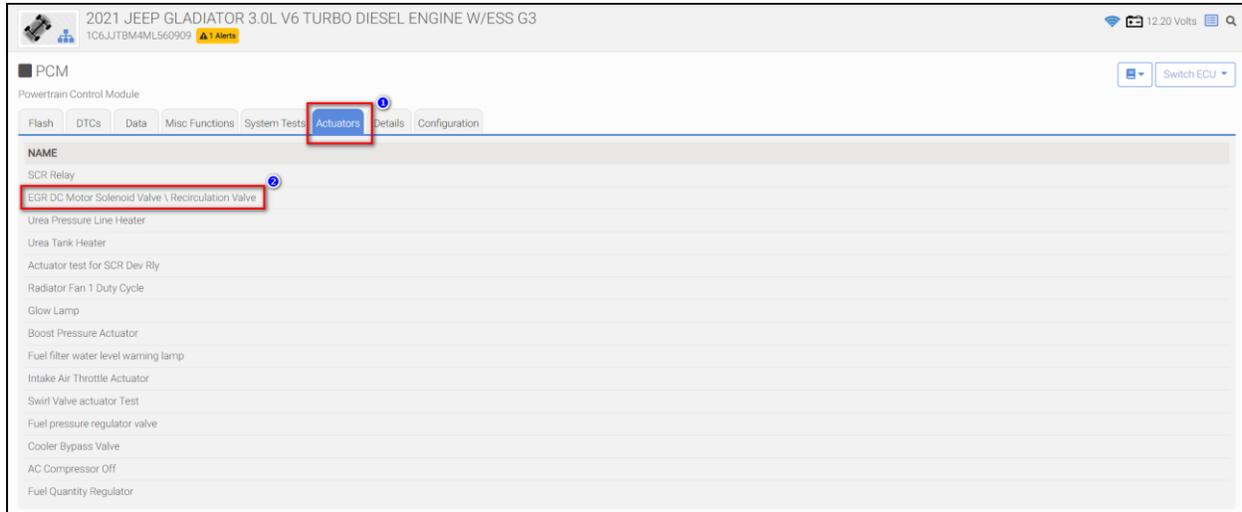

Figure 1.
2. Using wiTECH, navigate to the PCM “Actuators” tab, and initiate the “EGR DC Motor Solenoid Valve/Recirculation Valve” routine. Please see (Figure 1.).